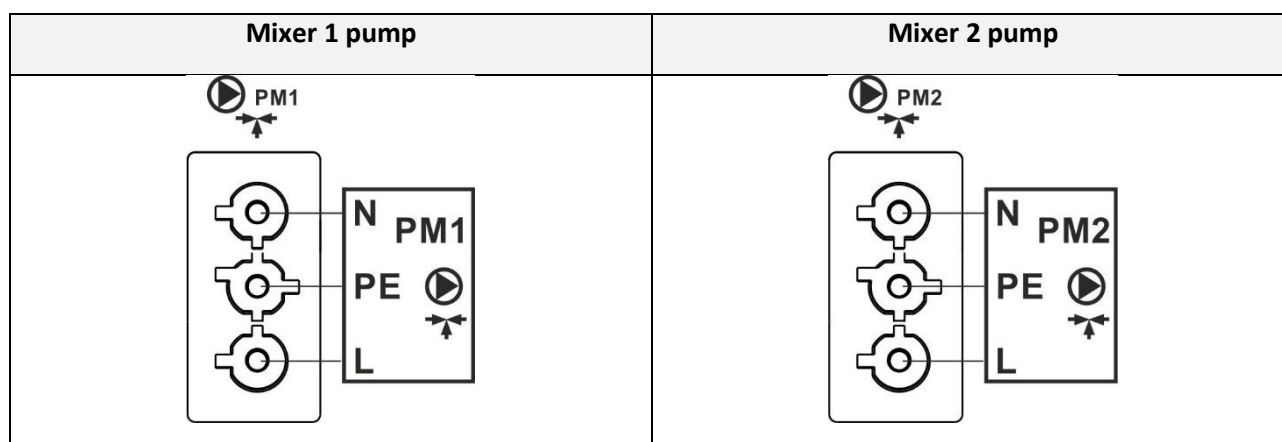

Figure 21. Wiring diagram of Mixer pumps
- connect the Mixer pump via the connector on the top of the switchboard to the controller (see Figure 21) according to the technical documentation of the pump manufacturer.